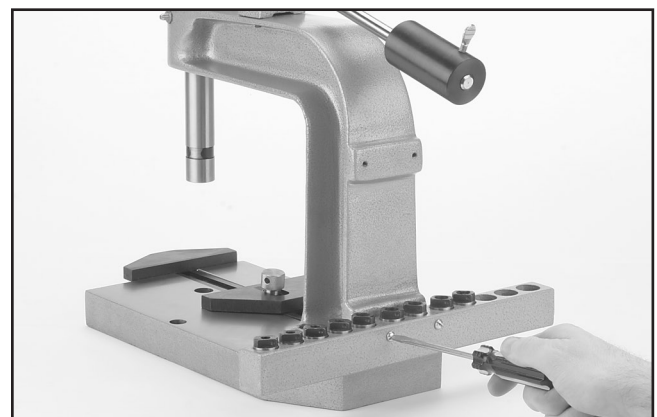

Figure 8. Attaching adapter rack to L-frame.
7. Attach the adapter rack to the L-frame with the two M5-.8 x 40 Phillips head screws, as shown in **Figure 8**.